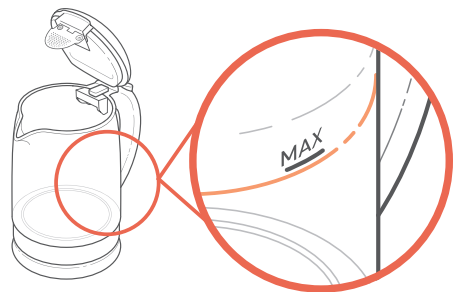

Figure 1.2
4. Fill the kettle with water to the "**MAX**" line, then close the lid. [Figure 1.2]